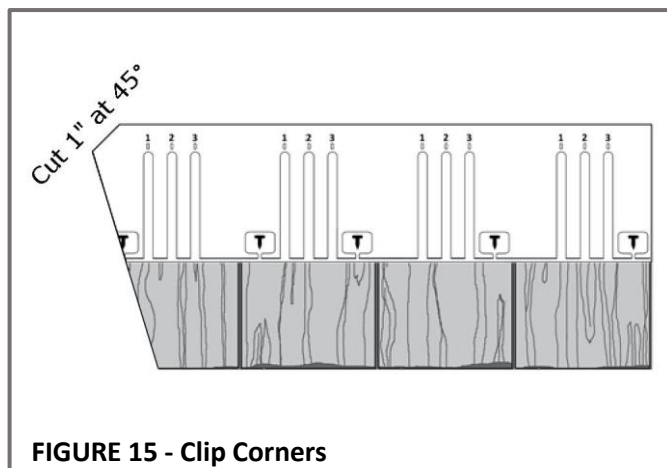

FIGURE 15 - Clip Corners
- SHINGLES** - Trim a **1" (25mm) 45° angle cut** from the top of the shingle in the valley. See **Figure 15**.